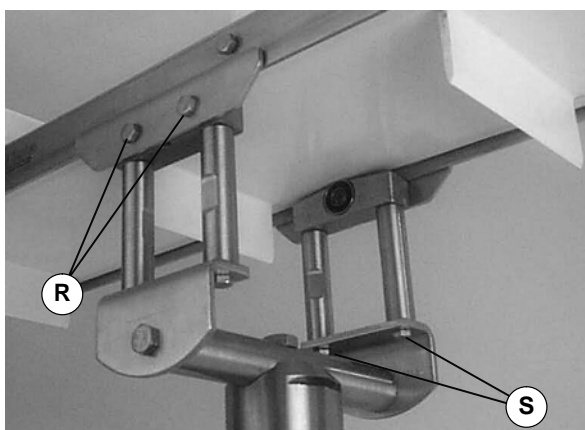

Figure 10
3. Attach clamp plates on each side of conveyor (Figure 10). Tighten the screws (R) to 10.4 Nm.